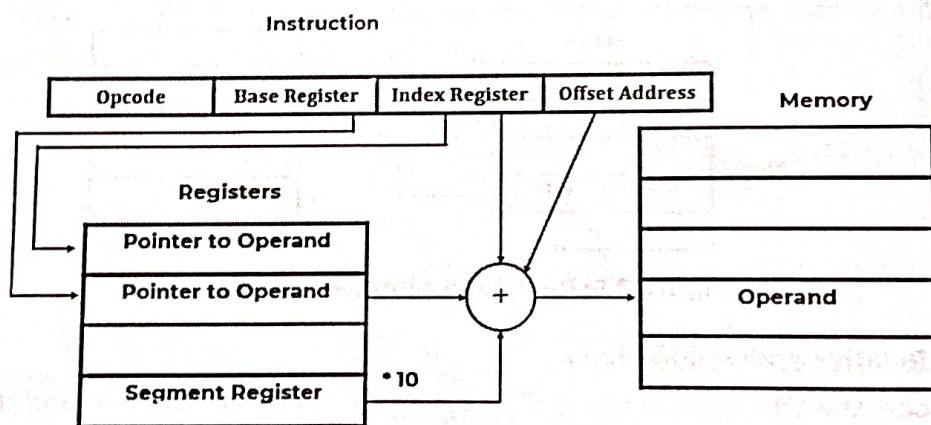

Figure 2.9: Relative Based Indexed Addressing Mode.
- This sum is added with the segment register * 10 H to generate Effective Address as shown in figure 2.9.